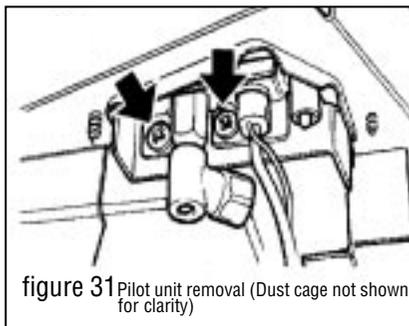

figure 31 Pilot unit removal (Dust cage not shown for clarity)
cage to the pilot unit & burner. Carefully remove the dust cage and place aside. See figure 31.
- 10.7.6 Remove the second screw securing the pilot unit to the burner. Remove the pilot unit and place it aside. See figure 31.